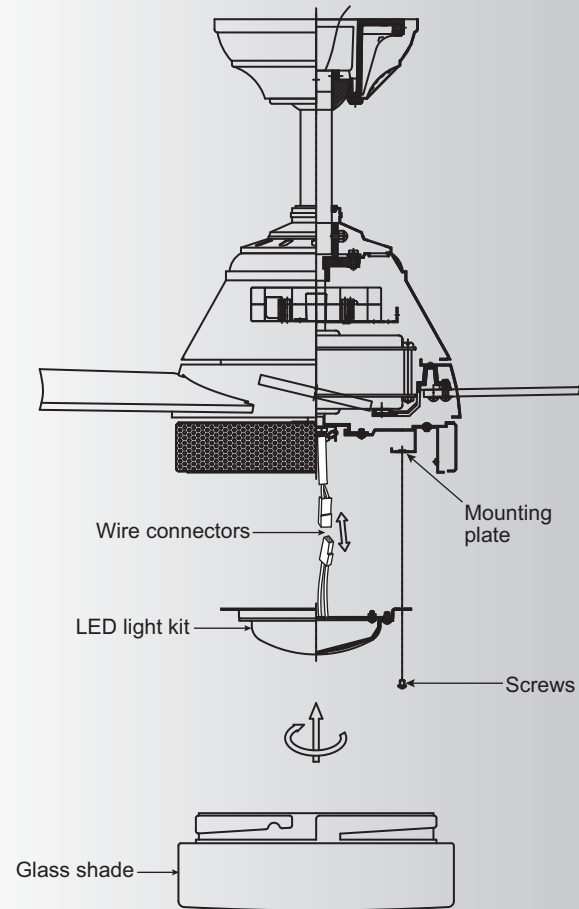

Fig. 16
Step 1. Loosen the three mounting screws on the inside of the LED light kit. (Fig.16)
Step 3. Tuck the connections neatly into the mounting plate. Place the key holes on the LED light kit over the 2 screws previously loosened from the mounting plate, turn the LED light kit until it locks in place at the narrow section of the key holes. Secure by tightening all three screws. (Fig.16)
Step 4. Raise the glass shade against the light kit and turn clockwise until snug, **DO NOT OVERTIGHTEN.** (Fig. 16)